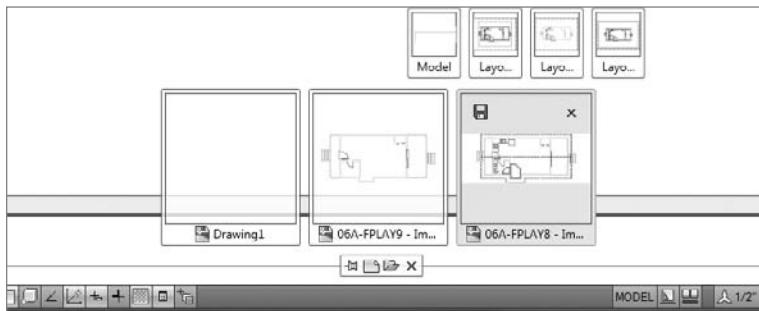

FIGURE 1.34 Displaying the open drawings with the Quick View Drawings tool
- 5. Another option for switching between open drawings is to click the Quick View Drawings button in the status bar. This displays thumbnails for the open drawings, and you can click any thumbnail to make its drawing active. Hovering over a thumbnail displays that drawing's layouts (see Figure 1.34). Layouts are designated views of the drawing with scaled viewports looking into the drawing model. Viewports are covered in Chapter 14.